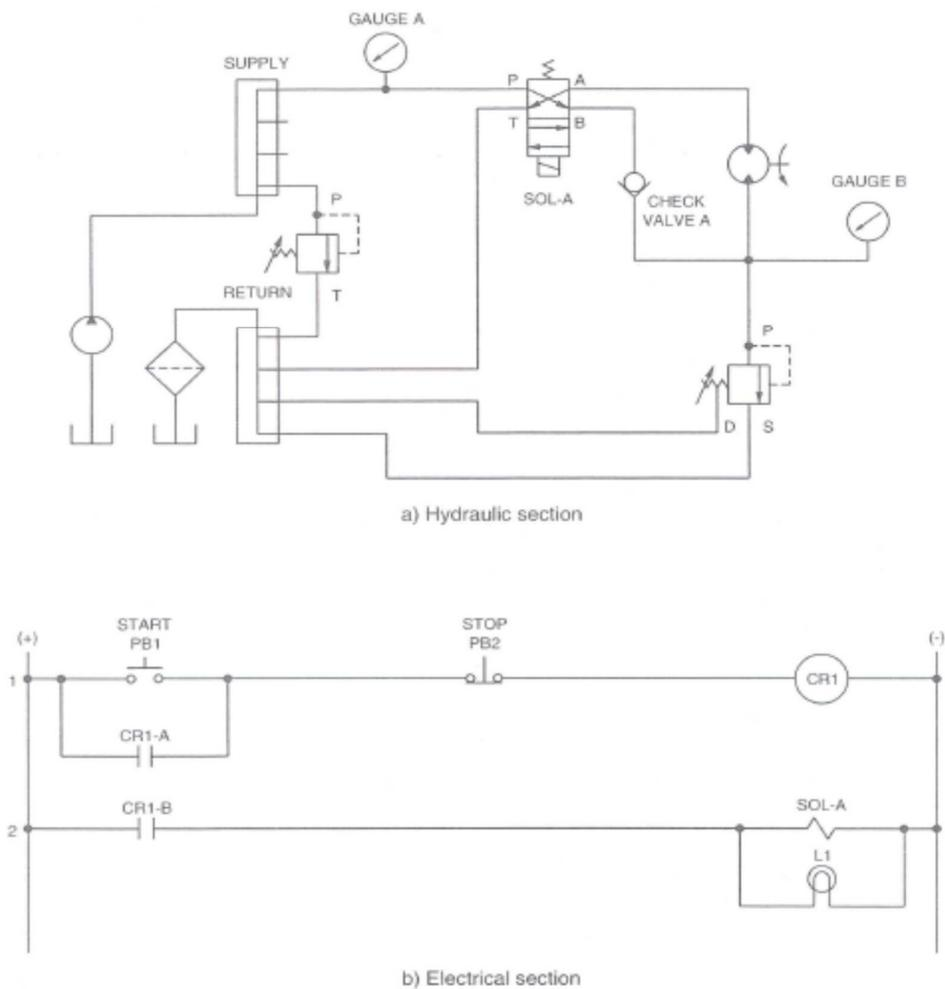

Figure 3. Braking of a Hydraulic motor by means of a sequence valve
- Connect the system shown in Figure 3.
Q1: What is the function of the sequence valve in the motor braking system of Figure 3?
Q2: Explain the operation of the sequence valve in the motor braking system of Figure 3?